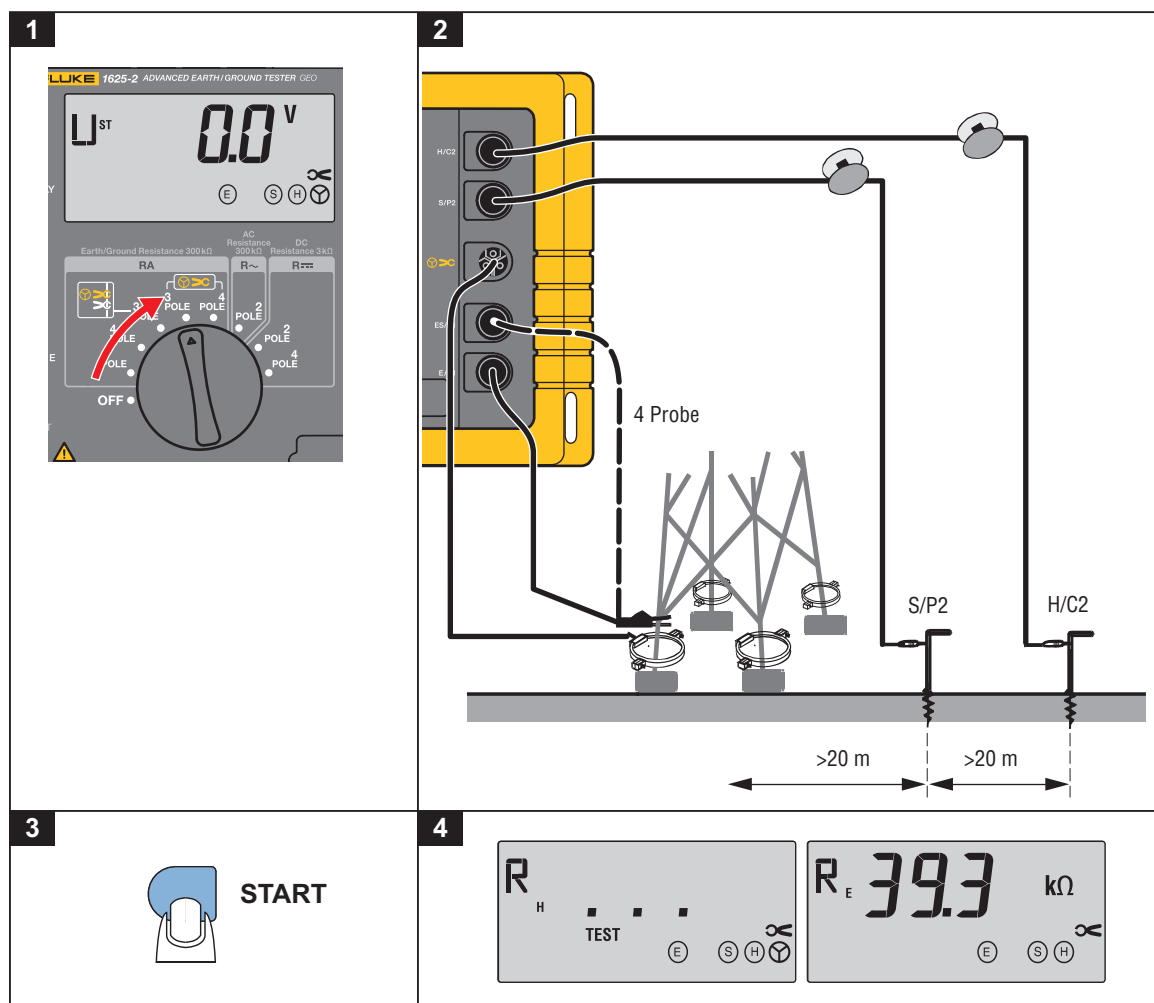

Figure 7. Earthing Resistance without Disengaging the Overhead Earth Wire
The new measuring method employed in this instrument - with its external current transformer to measure the true current flowing through the earth electrode - allows measurements of earth electrode resistances without disconnection of the earthing system or disengaging the overhead earth wire. See Figure 7.
1. Turn central rotary switch to position "➤CR_E 3pole" or "➤CR_E 4pole". The instrument is wired according Figure 7 and messages on the display.